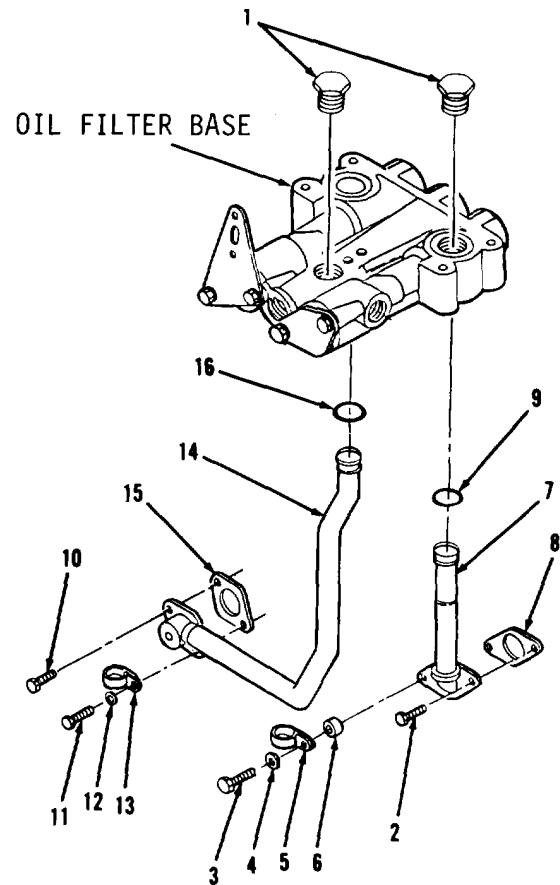

Figure 3-76.
1. Remove two plugs (1) from top of oil filter base.
2. Remove bolts (2 and 3), washer (4), clip (5), spacer (6), tube (7), gasket (8) and preformed packing (9, Figure 3-76) from left side of engine. Discard gasket (8) and preformed packing (9). Remove all gasket material from mounting surfaces.